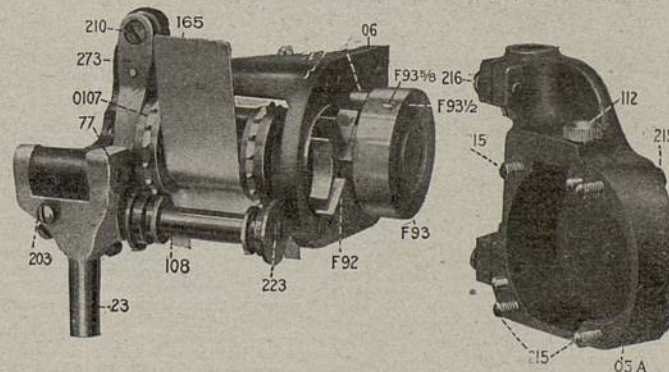
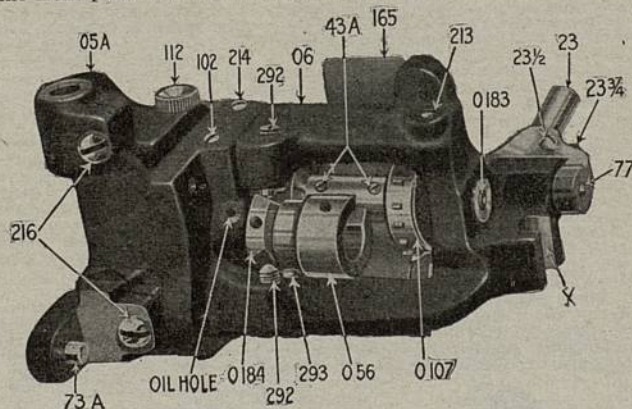
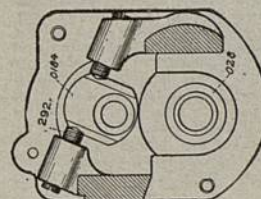
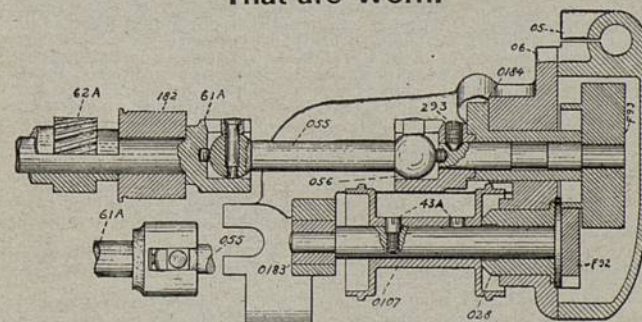

Fig. 30
Fig. 31
Fig. 32.
Fig. 33
mittent sprocket and shaking same up and down when the star wheel and intermittent sprocket are at rest; that is when the pin No. F-93, Fig. 30, in the Geneva driver or pin wheel No. F-93 is on the opposite side of the pin wheel from the star wheel No. F-92. To eliminate the above lost motion, proceed as follows: First, remove the side or license plate from the mechanism by raising up the little thumb nut on the front of the crank shaft boss, pull the top of the plate outward and remove it; now loosen the two smaller thumb screws at the bottom of the front plate which carries the lens and raise the spring at the top
slightly, at the same time pull the top of front plate outward and raise it up to disengage it from the screws on the lower corners and remove it. Open the film gate by pressing the little button or projection shaft at the front of and a little below the crank shaft boss. On the front of framing device upright casting, No. 05-A, Fig. 31, will be found two round head screws, No. 216, which serves to clamp the two split bosses through which the vertical slide rod No. 72 passes from the top to the bottom of the main frame of the mechanism, which screws into bottom of same. These screws are for increasing the tension of the framing device to prevent it from shifting out of position while the mechanism is in operation. Loosen these screws so as to relieve the tension on the vertical rod so it can be easily turned, then unscrew it and pull it out through the top of mechanism. Remove the entire framing device through the aperture in the side of mechanism.
After having removed the framing device as above directed it will appear as shown in Fig. 31, and may now be adjusted as follows:
First, Loosen the small, headless set screw, No. 102, Fig. 31, to set the Geneva parts closer together, loosen the lower set screw, No. 292, Figs. 31 and 32, slightly; then tighten the upper set screw No. 292, Figs. 31 and 32. This operation may be repeated loosening and tightening the screws respectively a little at a time until all of the lost motion is eliminated. Have the adjustment of the Geneva driver, cam or pin wheel, No. F-93, Fig. 30, just close enough to the star wheel,
No. F-92, Fig. 30, that the movement of the pin wheel shaft will be free and easy, yet so there will be no circular movement to the intermittent sprocket wheel, No. 0107, Figs. 30 and 31, while it is at rest. Do not tighten so the cam or pin wheel will not work perfectly free. If too tight, simply reverse the above operation by loosening the top screw, No. 292, Figs. 31 and 32, and tighten the lower screw No. 292. When the Geneva movement is in proper adjustment do not forget to retighten the headless set screw, in fact have all screws perfectly tight when through with adjustments. The Motiograph machine has only one eccentric bushing, No. 0184, Fig. 32 and 33, which is located on the cam shaft, making it much easier and more simple to adjust than other machines which have two eccentric bushings, one on each end of the intermittent sprocket shaft and requires very close attention when adjusting in order that the intermittent sprocket will be level.
If lost motion is developed endwise on the intermittent sprocket shaft it may be eliminated by loosening the headless set screw, No. 213, Fig. 31, which will be found on the small end of horizontal casting, No. 06, and directly over No. 0183 bushing, Fig. 33, and pushing said bushing in so that it will rest snugly against the shoulder of the star shaft, eliminating all play, but not so that it will bind when turning, then tighten set screw, No. 213, Fig. 31.
To replace the No. 056 Ball Socket Fig. 33, on the cam shaft, remove the framing device as above directed, remove the No. 05 vertical casting which forms a cover over the star and cam, by removing the four screws No. 215, Fig. 30. Next remove screw No. 293, Fig. 33, in the
center of ball socket No. 056 will be seen the end of the cam shaft. The end of the cam shaft and the shaft opening in the ball socket are slightly tapered. Place on end of cam shaft a punch of brass or hard wood or a very soft piece of steel will do, tap lightly with a hammer, this will release the socket from the cam shaft. The end of the punch must never be rounded but should be perfectly flat and preferably should have a hole in the center so as not to flatten down the leather cushion. Never under any circumstances, use a hard steel punch and be careful that the punch sets square on the shaft. A special three-piece, vest pocket size punch or tool set for this purpose may be obtained from us for \$1.00. Place the new socket on the end of cam shaft and through the hole for screw No. 293, Fig. 33; observe that the hole sets accurately over the hole in the shaft, then with framing device in an upright position, place the cam on a suitable solid support and with a piece of hard wood or brass placed on top of the ball socket or by use of the vest pocket punch, tap it lightly with a hammer in order to bring it firmly into place, then insert the screw No. 293 and screw it down very tight. If lightly driven on in this manner into proper position and the screw firmly tightened, there is no danger of its ever coming loose.
**To Replace the Cam, No. F-93, Fig. 33.** follow instructions precisely for replacing No. 056 socket, removing the old cam by pulling the shaft out of No. 0184 eccentric bushing after removing socket as above directed and inserting the new cam and replace the socket.
**To Replace the Star and Shaft, No. F-92, Fig. 33,** follow instructions for replacing No. 056 socket and cam, then remove the stripper plate, No. 165, Fig. 30, by removing the three screws underneath the framing device which hold it in position. Remove the two screws, No. 43-A, Fig. 33, then by taking hold of the star wheel pull it out and insert the new one, being careful to get the screw holes in the shaft right side up.
**Keep in mind** the fact that steady pictures depend more on the accuracy of the Intermittent Sprocket Wheel and the Geneva Star and Cam than on any other part of the machine; hence, it is of the most vital importance that the greatest care should be exercised in order to maintain the accuracy that is absolutely necessary to the production of good work. As the fitting of the cam to its shaft is an operation that cannot be well done without special facilities, we have combined these two parts as one, and they are so listed in the Parts Price List, and no operator or mechanic should, without the special facilities, undertake to separate the cam from its shaft and expect to fit another in a way that will do accurate work. The Geneva driver pin No. F93½ Fig. 30, may be removed for replacement by loosening screw No. F93½ Fig. 30, which holds it in position. The star wheel and shaft is one solid piece and is very accurately ground by high grade automatic machinery.
**To Replace Eccentric Bushing, No. 0184, Fig. 33,** follow instructions to replace No. 056 ball socket, then loosen screws No. 102 and 292, Fig. 31, and push bushing out toward sprocket.
**To Replace Large Bushing, No. 028, Fig. 33,** follow instructions to replace star and shaft, F92 then loosen screw No. 214, Fig. 31, and push bushing out toward star side.
**To Replace Small Bushing, No. 0183, Fig. 33,** follow instructions to replace star and shaft, No. F-92, then loosen screw No. 213, Fig. 31, and push bushing out.
**To Replace Ball Socket, No. 61-A, Fig. 33,** it will be necessary to replace the shaft also, as they are made of one piece of metal. Remove the gear cover and the gear bridge, now remove screws No. 205 in the hub of the balance wheel No. 14. The gear for the balance shaft is mounted on a sleeve or collar, No. 62-A, and the balance wheel in turn is mounted on this gear sleeve. One of the set screws in the hub of the balance wheel engages only with the gear sleeve, while the other passes
through the gear sleeve and is seated in the balance shaft. Two screws, No. 285, pass, one through the extreme end and one through the center of sleeve and into the balance shaft. After removing the balance wheel remove the screws No. 285, remove the sleeve and gear, the balance shaft and ball socket No. 61-A can now be slipped out through the shutter box of the mechanism. Insert the new balance shaft and ball arbor No. 61-A in the bushing No. 182, Fig. 33, put the gear sleeve No. 62-A in place on the shaft, insert screws No. 285 and screw them down tight, now replace the balance wheel, see that the holes for set screws are in their respective places to engage with the holes in the sleeve, turn the screws to place tightly and replace the bridge.
**To Replace the Framing Device** into the mechanism first insert the ball-arbor, No. 055, figure 33, into the ball socket, No. 61-A, by taking the small, square block between the thumb and the finger of the right hand and guiding it into slot of the socket No. 61-A, then place the framing device into the opening of the mechanism from which it was removed and push it into position, at the same time placing the other end of ball arbor into the socket, No. 056, figure 33, in the same manner as was before directed in placing No. 055 ball arbor into No. 61-A socket, and also at the same time see that the vertical guide rod on the opposite side of the shutter box enters the slot X, Fig. 31, in the opposite end of the framing device and see that the short, flat link attached to the end of the framing lever is placed over the pin, No. 73-A, Fig. 31, on the lower front boss of the framing device; insert the vertical slide rod, screw it into place and tighten the tension screws No. 216; replace the front plate, tighten the screws at the lower corners and replace the side plate.
**Use of Vaseline in the Framing Device Oil Chamber.**—Remove that part of the framing device which forms the cover to the oil chamber, No. 05 vertical casting, Fig. 30, by removing the four screws, No. 215, Fig. 30, in the side, after first having removed the framing device from the mechanism as before directed. Take the remaining part of the framing device in one hand, and with the flexible metal tube of white vaseline in the other, force the vaseline into the opening of the flange of the pin wheel, No. F-93, Fig. 30, where the pin, No. F-93½, is located until that opening is well filled, then force the vaseline all around the outside of the flange of the pin wheel. Then cover the entire surface of the star, No. F-92, Fig. 30, with a liberal coating. This is all that will be required. Care must be taken not to put in too much vaseline, as the rapid rotation of the star and cam wheel will have a tendency to force it out through the oil cup, which would be very undesirable.
After replacing the cover put eight or ten drops of fine lubricating oil in the oil cup, No. 112, Figs. 30 and 31, on top of the framing device, which will mix with the vaseline and soften it to the proper consistency. If care has been taken in applying the vaseline thoroughly the machine should run, even under the heaviest usage, for at least three weeks without further attention to this part, except to add occasionally a few drops of fresh oil. At the end of that period, if the vaseline has become blackened, it is time to remove it, clean the pin and star wheel, wash them off with benzine or gasoline and put in fresh vaseline as described above.